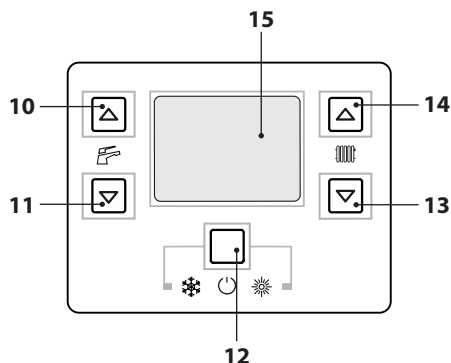

Figure 6.5
- Press key 12 for 2 seconds until both symbols  and  appear on the display (Figure 6.5).
- Turn off the boiler by pressing key 12 (Figure 6.5) for 2 seconds until the symbol — — — appears on the display (the dashes appear in sequence to simulate flowing) (Figure 6.4).